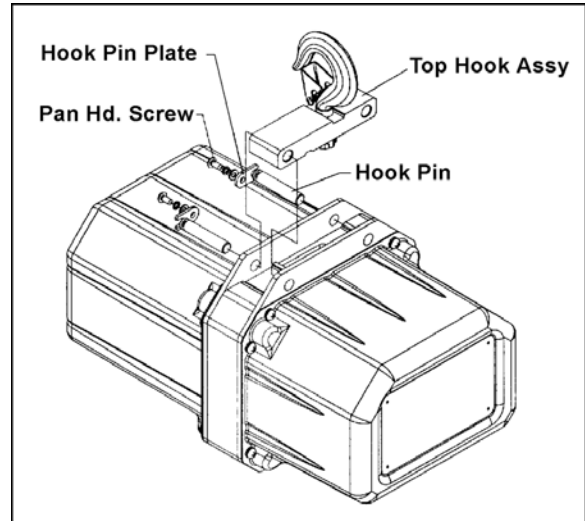

Figure 8
3. On the electric hoist, remove the two screws, hook pin plate, hook pin, etc. (Figure 8)